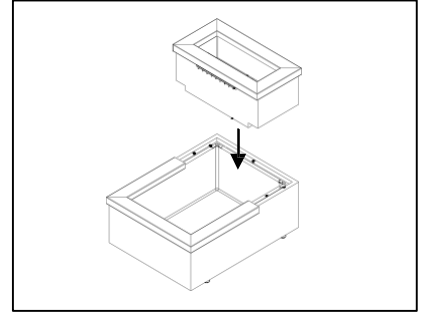

Fig. 1
1. Select a level location to assemble the Patio Pond. Then place the upper section on to the lower section. Fig. 1